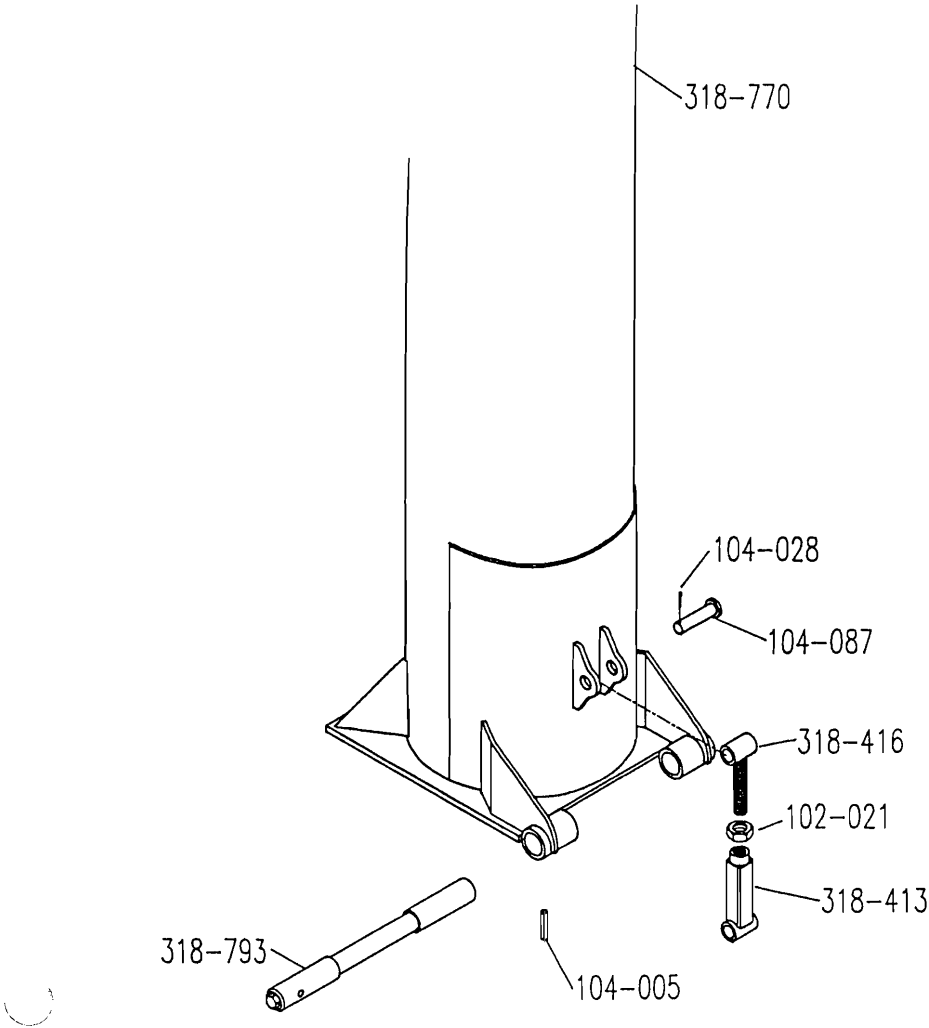

FIGURE 6: TOP AUGER HINGE ASSEMBLY
2. See Figure 6. Turn the shaft until drilled hole in shaft is aligned with hole in top auger plate portion of hinge and drive in ½" x 2 ½" roll pin (104-005), securing shaft in hinge assembly.